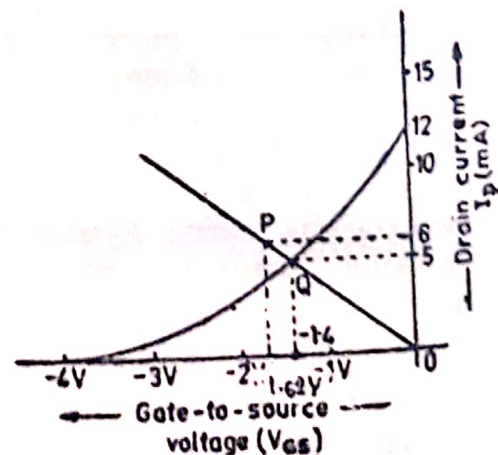

Fig. 32.7
2. Now plot the values of drain current ($I_D = 6 \text{ mA}$) and the corresponding value of voltage V_{GS} (i.e. -1.62 V) on the graph of transfer characteristic curve as shown in Fig. 32.7.
3. Draw a line through the plotted point (P) and the origin as shown in the figure and read the coordinates of Q-point.